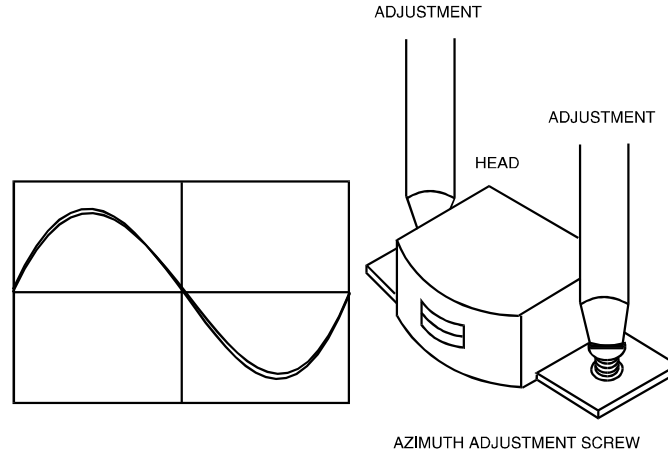

Figure 2. Head Output Signal
3. While playing back the test tape, slowly turn the azimuth adjusting screw until the amplitude of both channel output waveforms is maximum and in phase. Note: Reiteration adjusting Right, lift the screw, until the amplitude of both channel output waveform is maximum. (See Figure 2.)